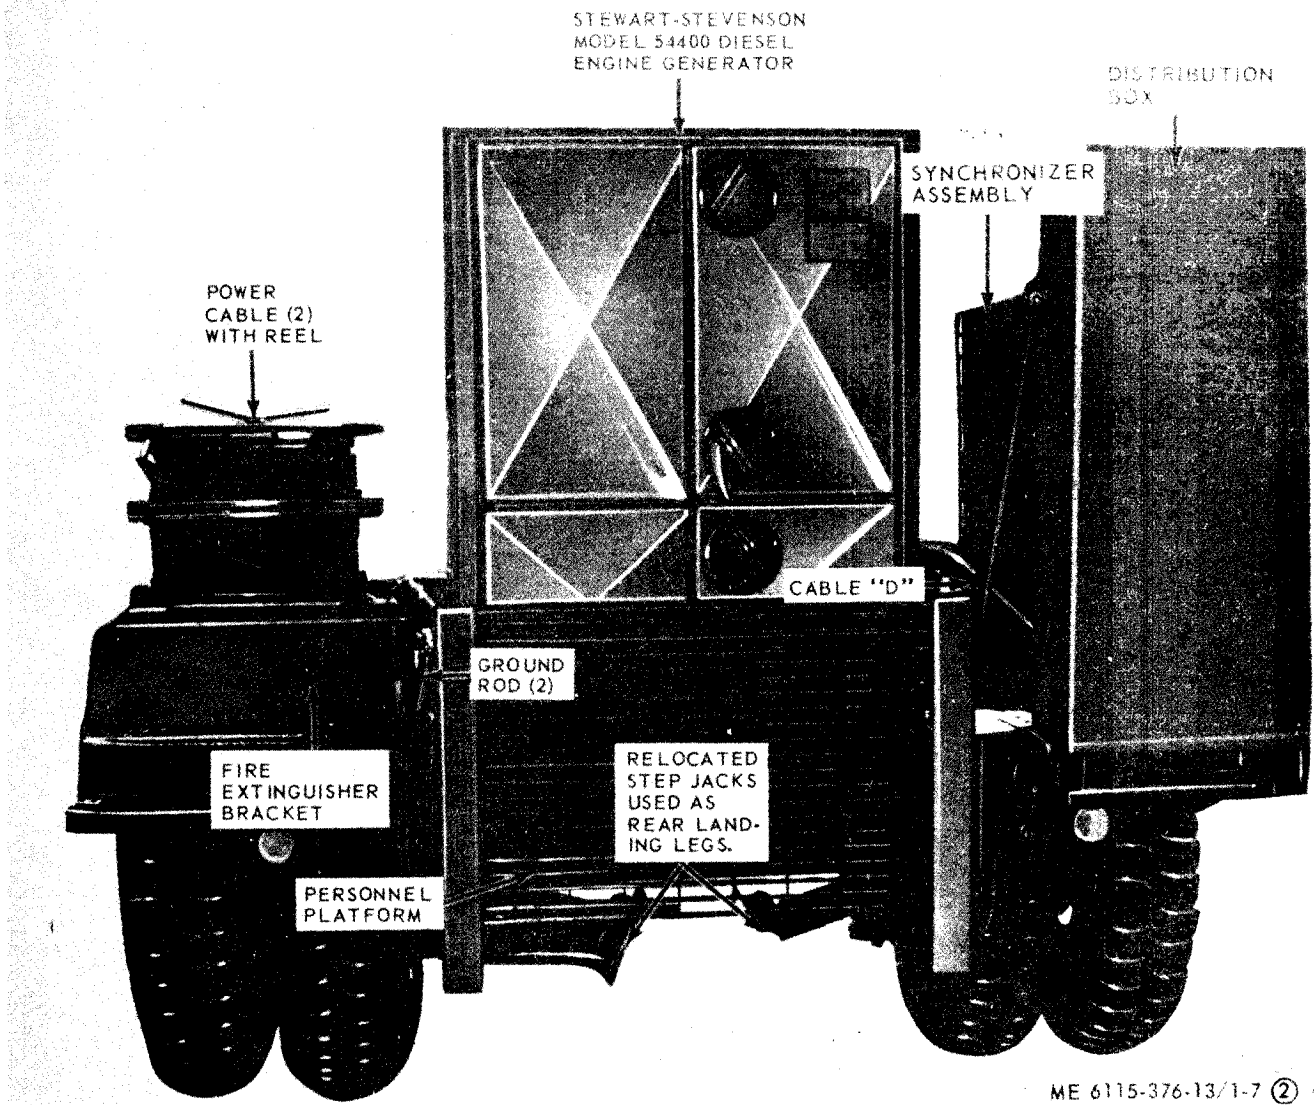

Figure 1-7. PU-407/M trailer with Stewart-Stevenson DE generator Model 54400 and synchronizer assembly (sheet 2 of 2).
(2) Diesel engine generator set, 45 KW (PU-407/M, PU-408/M). The Stewart-Stevenson Model 54400 diesel generator unit is described in TM 5-6115-247-15. It is connected for a four-wire output of 120/208 or 240/416 volt, 3-phase, 60 hertz, 45 KW (fig. 1-7).